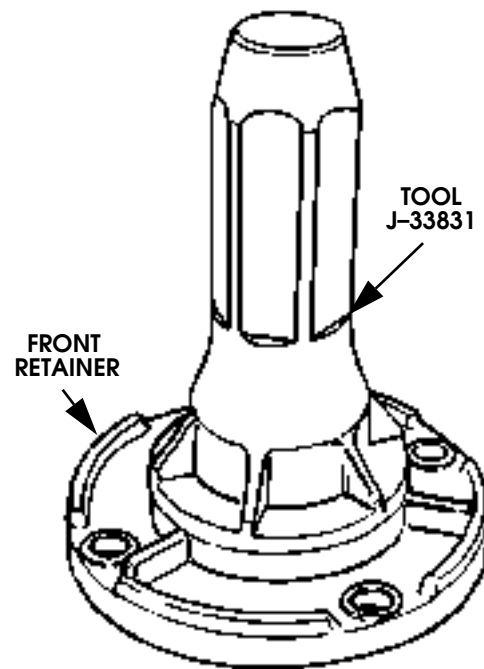

Figure 5-136: Front Retainer Seal Installation
- a. Install new seal in retainer with tool J-33831 (Figure 5-136).